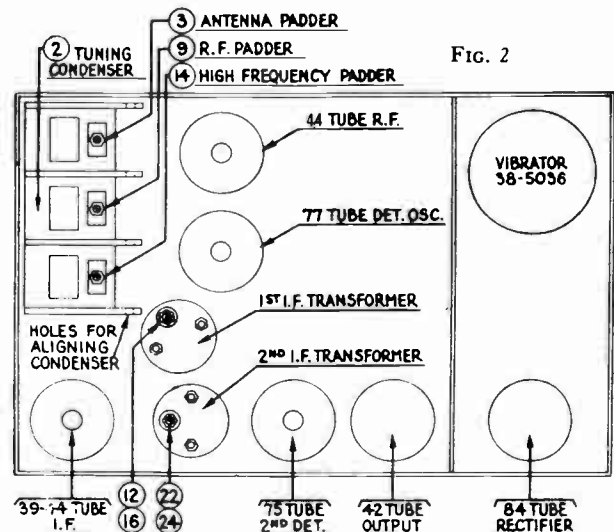

FIG. 2
Remove the speaker lid from the Receiver. Remove the grid cap terminal from the 77 tube (for location see Fig. 2).
Set up the signal generator and adjust it to exactly 260 K. C. Connect the generator lead to the grid cap of the 77 tube. (See Fig. 2.) The output meter must be connected.
The padders (22) and (24) are adjusted first (Figs. 2 and 3). Turn the adjusting screw (22) all the way in. A metal screwdriver can be used for this. Then, with generator attenuator set so there is approximately half-scale reading, adjust the nut (24) with a fibre wrench for the maximum reading on the output meter.
There are four holes in line, one in each of the sections of the tuning condenser housing. (See Fig. 2.) Place a nail of the size that fits snugly through the holes and then turn the condenser plates out of mesh until they strike against the nail.